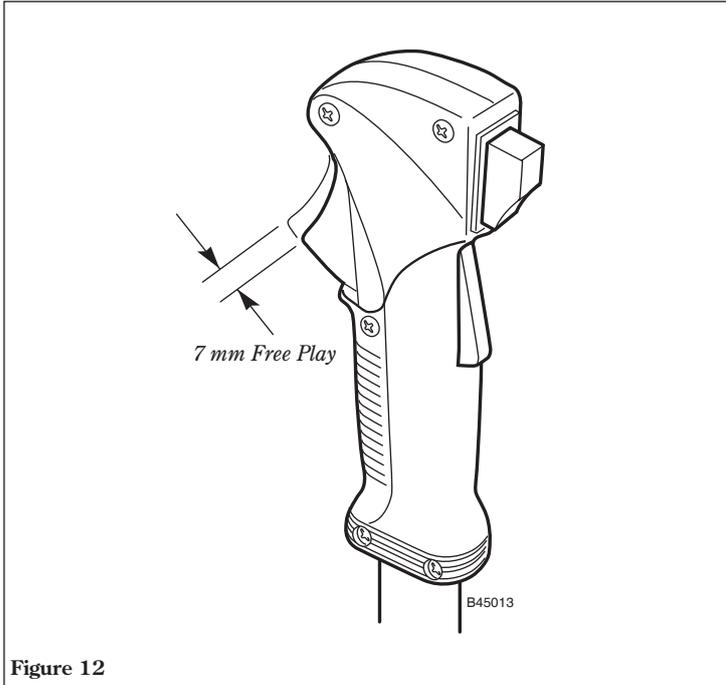

Figure 12
2. Check the throttle control lever “Free Play” clearance. “Free Play” should be approximately 0.275 inches (7 mm) in the idle position. See Figure 12.